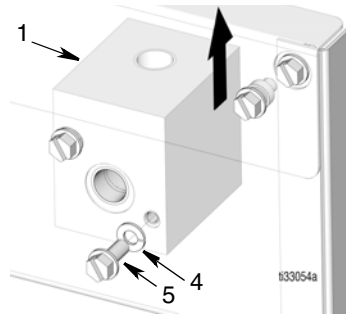

FIG. 22
7. Remove screws (5) and washers (4) from manifold (2). Lift manifold (2) straight up and out of the oil bar housing (FIG. 22).